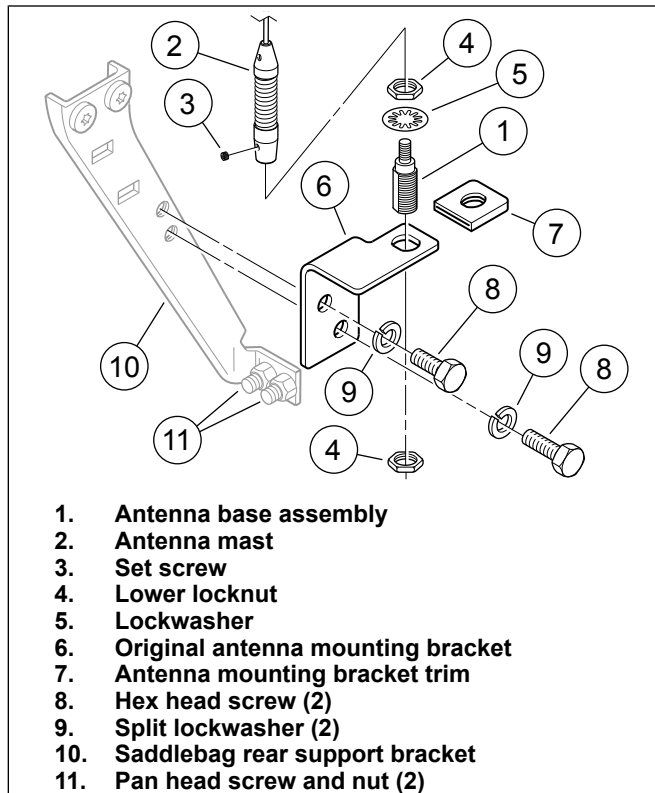

Figure 1. Original Antenna Mount
2. See Figure 1. Disconnect the antenna cable from the antenna base assembly (1).